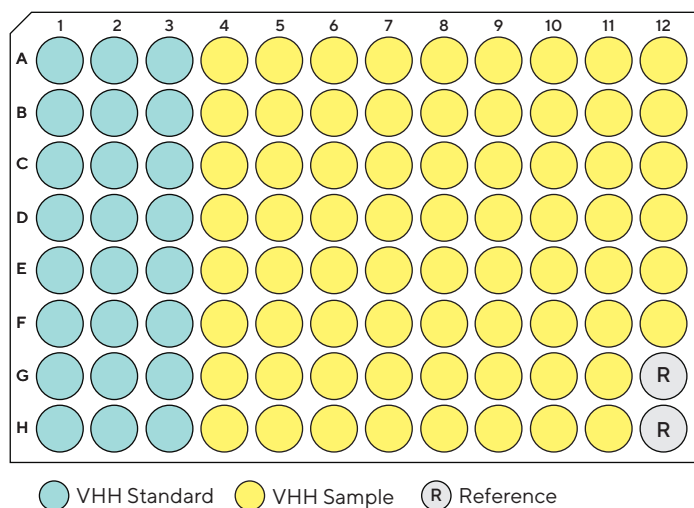

Figure 6. Example plate layout for a routine quantitation assay run in a 96-well microplate.
2. Set up a Basic Quantitation assay using the parameters described previously in the optimization experiments. See Figure 6 for example assay set up.